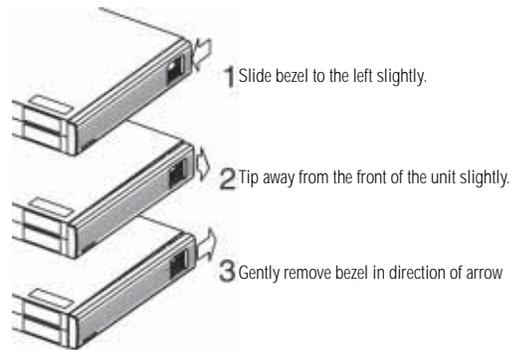

Fig. 10: Removing Front Bezel
For the ON2000, attach two mounting extension brackets to each side of the cabinet using eight (8) of the #6-32 screws, provided, through the eight (8) round clearance holes and tighten securely. See figure 10.
8. Secure the ears of the front brackets to the front side of the rack posts with four (4) rack fasteners (not provided). The ON2000 Universal Mount uses eight (8) fasteners (not provided).
1. Slide the bezel to the left (bottom) slightly, tip away from front of the unit slightly and then gently pull away from the UPS in direction of arrow (see fig. 10, number 3) to remove.
3. Replace the front bezel by reversing all three steps in fig 10.